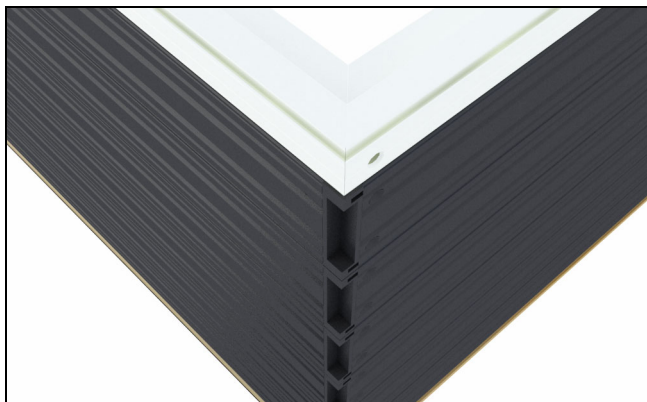

Figure 74
2. Align side jamb to head jamb. See figure 74.